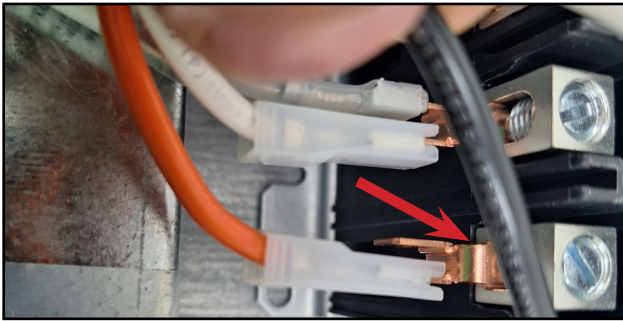

Fig.84
9. Reconnect the orange wire to T3.(Fig.84)